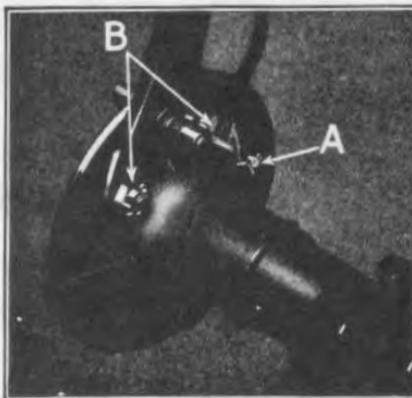

Fig. 329
**573** Disconnect brake rod by removing cotter key and withdrawing clevis pin (See "A" Fig. 329). Remove radius rods by running off the two radius rod bolt nuts "B" and withdrawing bolts.
- 611 Install radius rods on housing by inserting the radius rod bolts through flange and forked end of radius rod, running down nuts tightly on ends of bolts and locking with cotter keys (See "B" Fig. 329).
- 612 Connect forked end of brake rod to cam shaft lever by inserting clevis pin through brake rod and lever and locking pin with cotter key (See "A" Fig. 329).